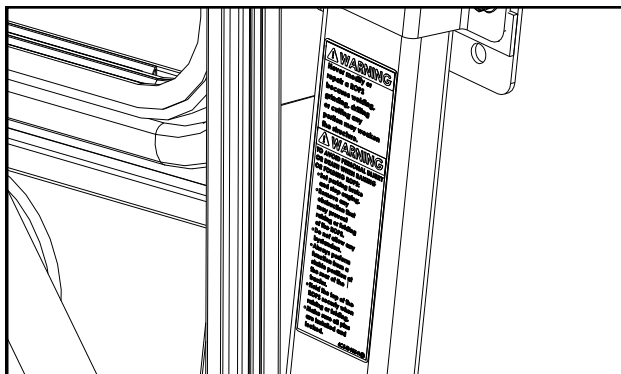

Fig. 20.1 (ROPS warning label installation)
**20.1** Install ROPS warning decal on the left side of the right ROPS tube just below the previously installed ROPS mount. See fig. 20.1.